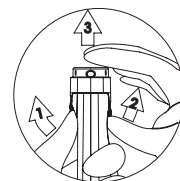

Fig. 1: Removing battery cover
1. To remove the battery cover, See Figure 1. Clear the front catch and then the back catch, before sliding the cover off.